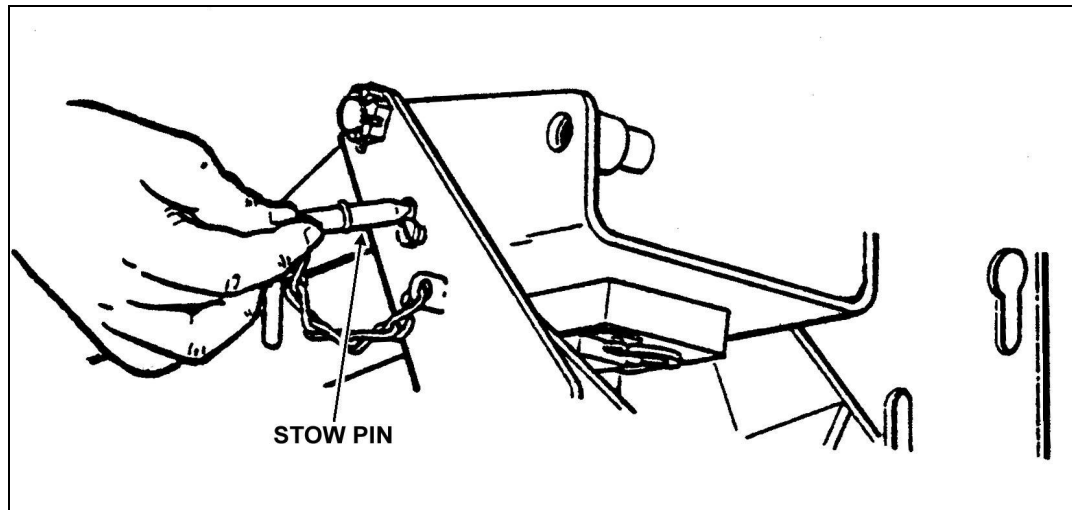

Figure 3-5. Stow pin.
(2) Remove the stow pin from the gun cradle (Figure 3-5).